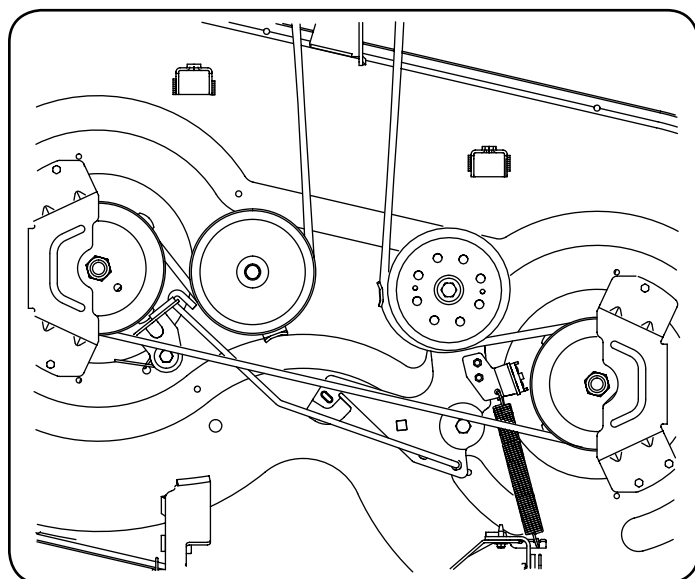
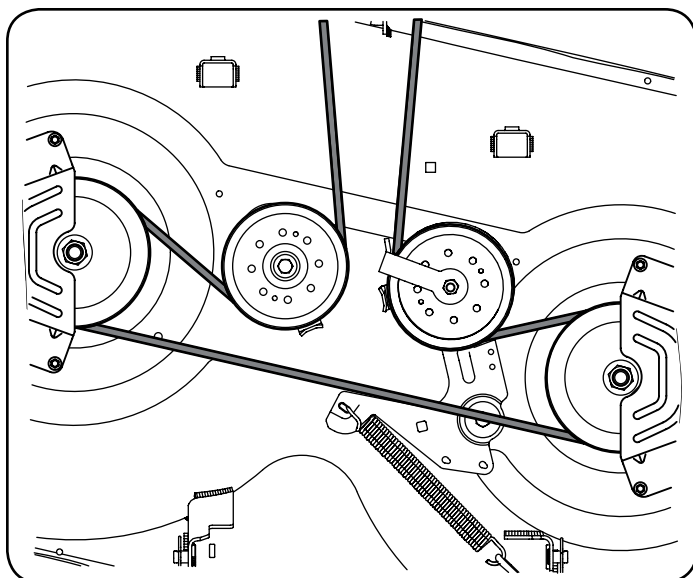
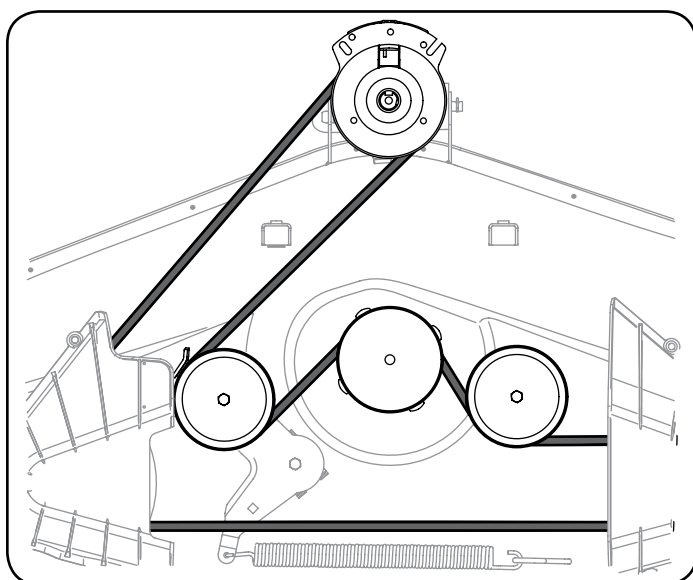

Figure 34
Figure 35
Figure 36
4. Route the new belt as shown in Figure 34 for 42" Decks, Figure 35 for 46" Decks and Figure 36 for 50" and 54" Decks.